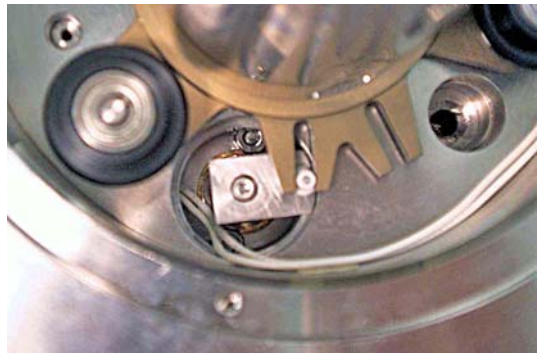

Figure 19
- 18 Keep all hands and tools clear of engage mechanism. Actuate the rotation function of the PG. The engage solenoid arm and engage plate should actuate and rotate to the position shown in Figure 19. The engage solenoid arm should not touch or rub against the wire during actuation. Verify that the wires do not contact the engage solenoid arm. Deactivate the rotate function. The engage solenoid arm and engage plate should return to the original position shown in Figure 17.